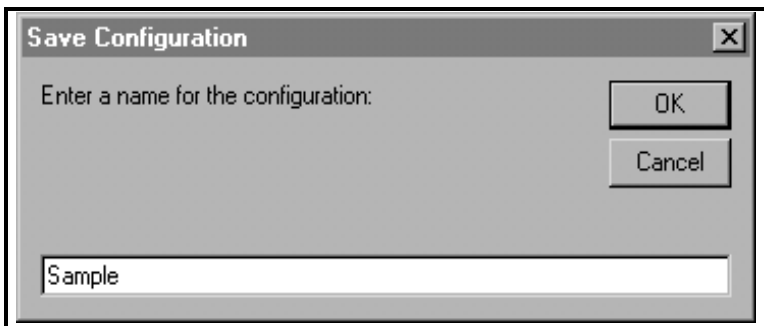

Figure 5-13: Configuration Name
2. Click on the [Save] option button and the dialog box shown in Figure 5-13 below appears. Enter a name for the new configuration that you wish to create.